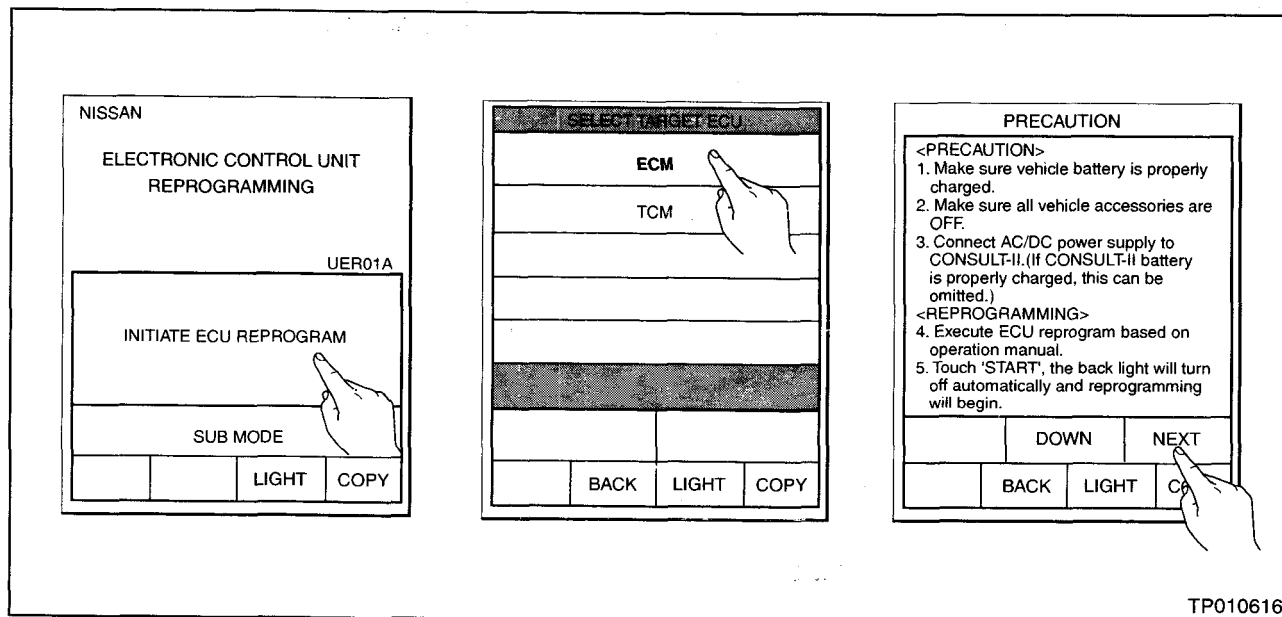

Figure 20
30. Press **"INITIATE ECM REPROGARM"** (see Figure 20), then do the following: